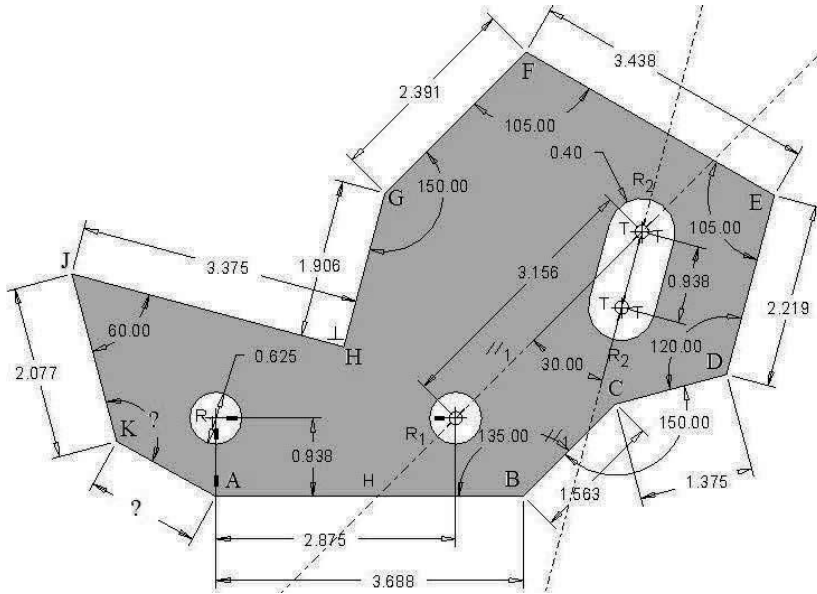

Figure 3-70 Problem 1
- 3.1** Draw "shear\_plate" (Figure 3-70). **Design Intent**—The left hole must be directly  $15/16$  inches above the lower left corner at point A. The right hole must be 2.875 inches from the left hole. The slot must be oriented 30 degrees from the indicated centerline. What is the length of line KA and the angle at K? (>File>Options>Sketcher, change to 3 decimal places. Pick OK.)